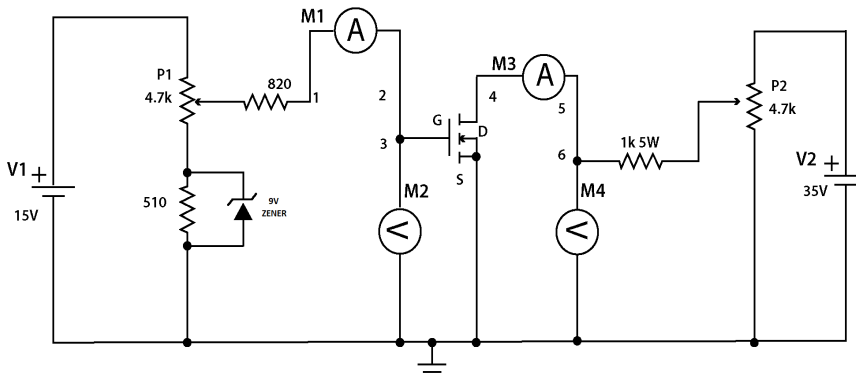

Figure 4
1. Connect the circuit as shown in Figure 4 using patch cords.